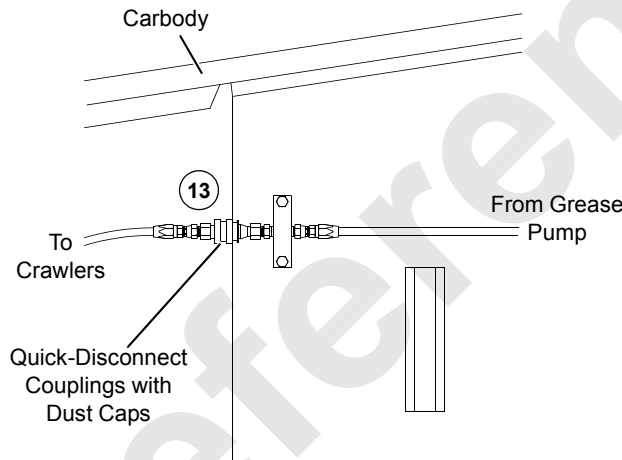

FIGURE 4-9
13. If equipped with automatic crawler lube system, connect grease line from crawler to quick-disconnect coupling on carbody (Figure 4-9).